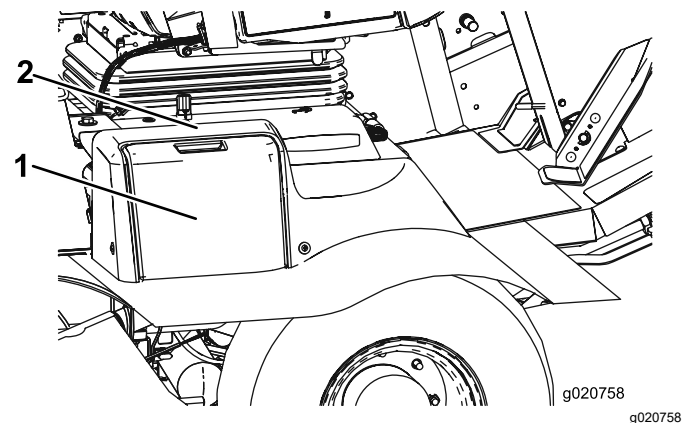

Figure 61
1. Open the battery cover on the side of the shroud (Figure 61).
Note: Press down on the flat surface above the battery cover to ease the removal of the cover (Figure 61).